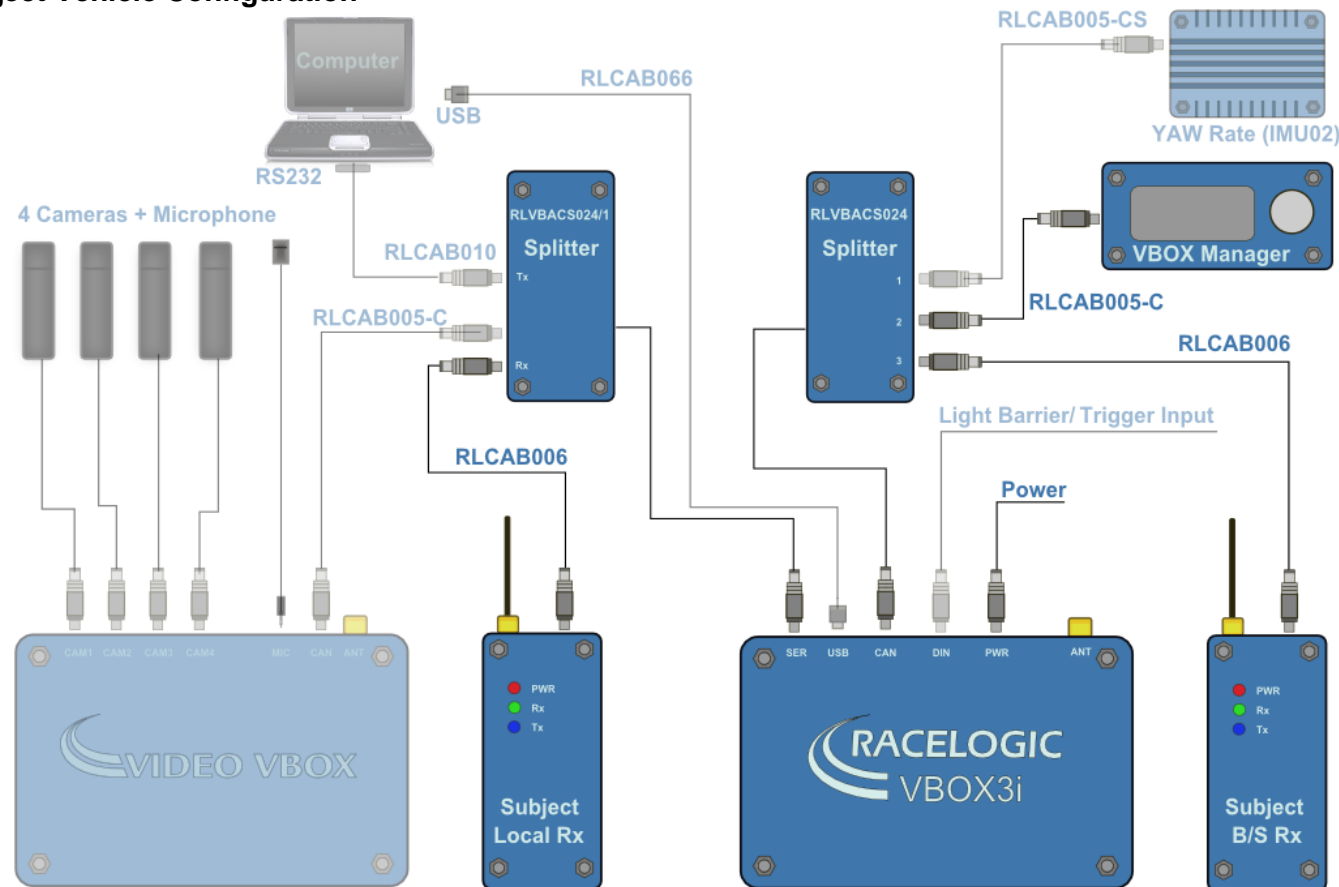

Figure 2: Racelogic ADAS Subject Vehicle hardware configuration
1. Ensure the 2.4GHz telemetry modems are connected as shown in Figure 2 and Figure 3.